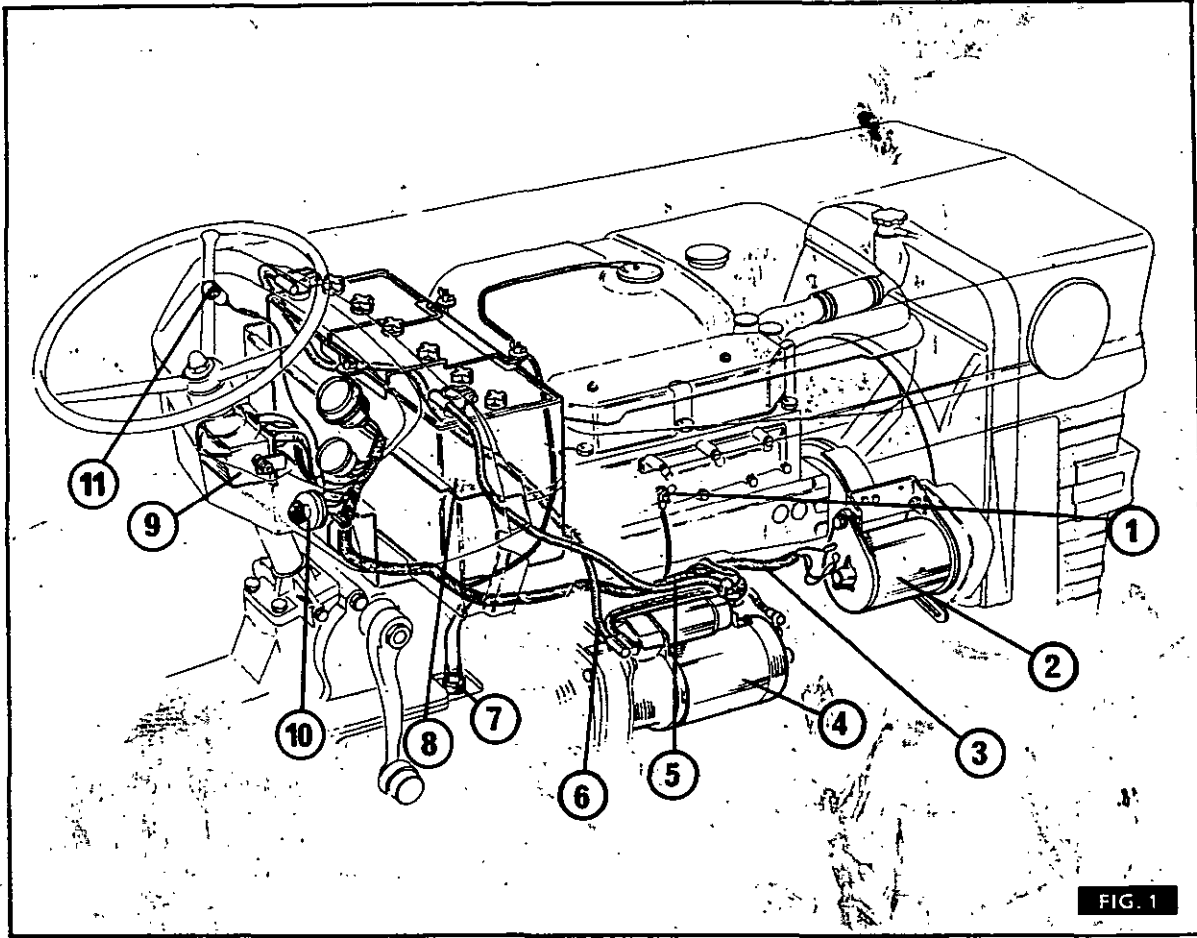

FIG. 1
The electrical system of this tractor is a 12 volt Negative earth system with compensated voltage control regulator. Fig. 1 shows the layout of all the electrical components and associated wiring.
**Key to Fig. 1**